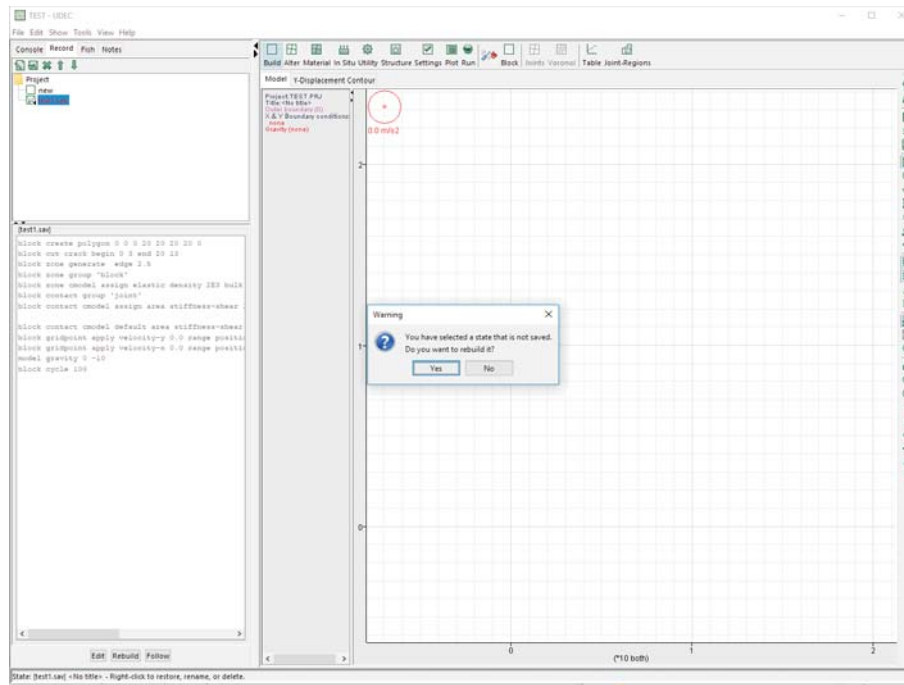

Figure 2.5 Double-click on the file named “test.sav” and click on **YES** in the Warning dialog to execute the test project named “TEST.PRJ”
4. Double-click on the file name “test.sav,” which appears in the *Record Resource* pane. See Figure 2.5.
5. Click on in the *Warning* dialog that appears (as shown in Figure 2.5). The test example will be run and the model will be executed for 100 calculation steps.